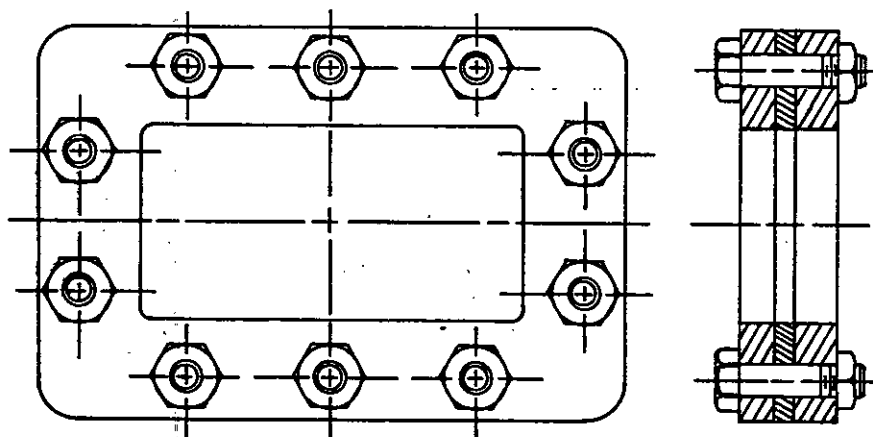

FIGURE 7.1. Typical contact coupling.
**7.1.1.1 Contact flanges.** Contact flanges are designed to mate with an identical flange. These flanges usually incorporate a gasket at the junction between flange faces to provide pressure sealing and enhance RF contact between flanges. The flange is mounted to the waveguide by inserting the waveguide through the flange and machining the flange face flat or by terminating the waveguide in a raised or recessed socket in the back of the flange. The gasket used with these flanges may be an O-ring type that is inserted in a groove machined into the flange face, or a one piece metal-rubber gasket may be used. The metal-rubber gasket is a metal plate using the same inside and outside dimensions and the same hole pattern as the mating flanges. A rubber sealing section is molded into the metal plate around the waveguide opening. A raised electrical contact area around the waveguide opening assures a low resistance contact area. When the O-ring type gasket is used, the O-ring provides pressure sealing and a raised area around the waveguide opening provides electrical contact. Care must be exercised to avoid pinched O-rings with resulting poor electrical contact at the flange face. Contact flanges are round in the millimeter frequency ranges, square from roughly 8 to 40 GHz, and rectangular at lower frequencies. Flanges for use above 26 GHz utilize alignment pins that are usually inserted after the flanges are attached to the waveguide. These pins insure accurate alignment of the interior surfaces of the waveguide at the flange junction. Contact flanges are usually made from various brass or aluminum alloys, depending on the method of manufacture. Flanges may be machined from forgings, castings, or bar stock. A typical contact coupling and gasket to be used with the coupling are shown in figures 7.1 and 7.2.